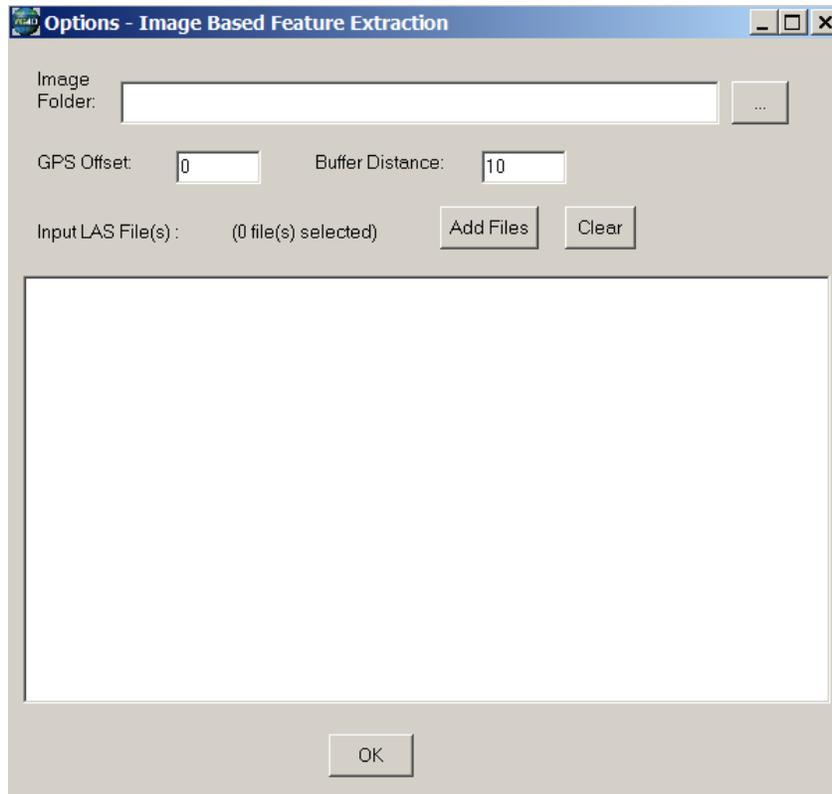

Figure 85: Image Base Feature Extraction
- A dialog box appears as shown in figure 85